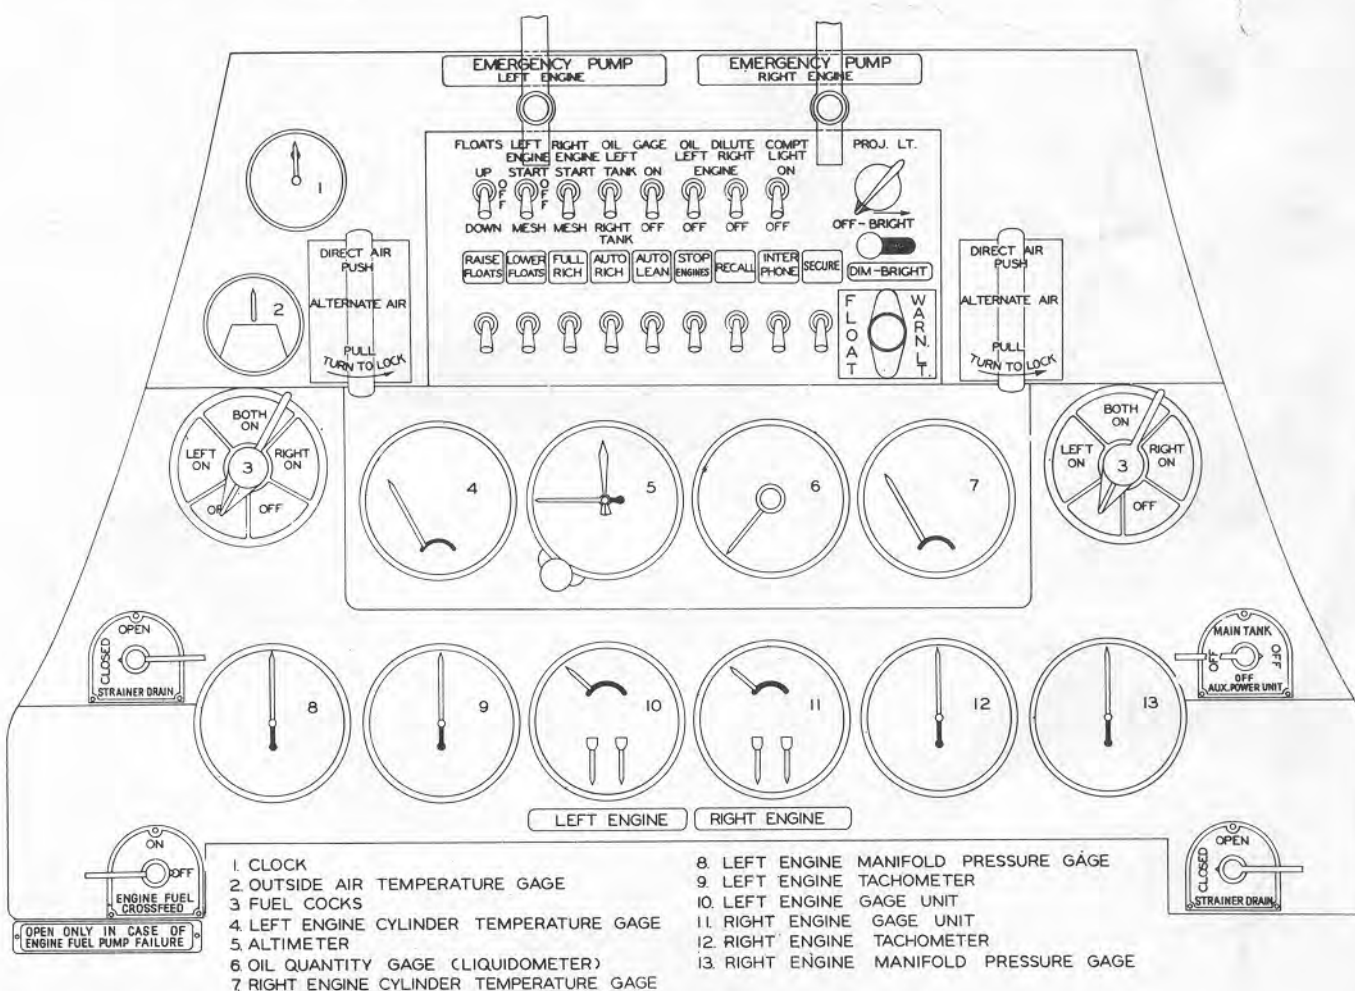

Figure 5—Engineer's Instrument Panel
*(See figures 5 and 20.)*—In addition to the interphone system, a system of signal lights is provided to enable the pilot to transmit orders to the engineer concerning operation of certain controls not available to the pilot. The system consists of duplicate sets of nine lights operated by individual single pole, single throw toggle switches, on the pilot's control yoke and the engineer's instrument panel. These lights are behind small ground-glass windows and the windows are lettered as follows; "RAISE FLOATS," "LOWER FLOATS," "FULL RICH," "AUTO RICH," "AUTO LEAN," "STOP ENGINES," "RECALL," "INTERPHONE," and "SECURE." The pilot may signal the engineer to perform any of the above operations by switching the proper light on. The engineer may acknowledge the order by switching the light off. The light marked "INTERPHONE" on either panel indicates that either pilot or engineer desires to talk to the other on the interphone system.
**(1) POWER PLANT, FUEL AND OIL SYSTEM CONTROLS.**—The carburetor mixture control levers and quadrant are located above the center of the engineer's instrument panel, between the fuel flowmeter.
(3) ENGINE, FUEL AND OIL SYSTEM INSTRUMENTS. (See figure 5.)—Engineer's engine instruments consist of two manifold pressure gages, two engine cylinder temperature gages and two tachometers. Oil system instruments consist of an oil quantity gage (liquidometer) and two oil temperature and pressure gages, incorporated as parts of the engine gage units. Fuel system instruments consist of fuel pressure gages incorporated as parts of the engine gage units; fuel flowmeters; quantity sight gages; and an inclinometer and tilt charts to be used in conjunction with the sight gages.
(See figures 5 and 17.)